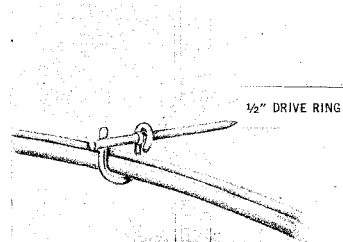

Fig. 6B - Drive Rings
- Install drive rings in wood surfaces as indicated in Fig. 6B.